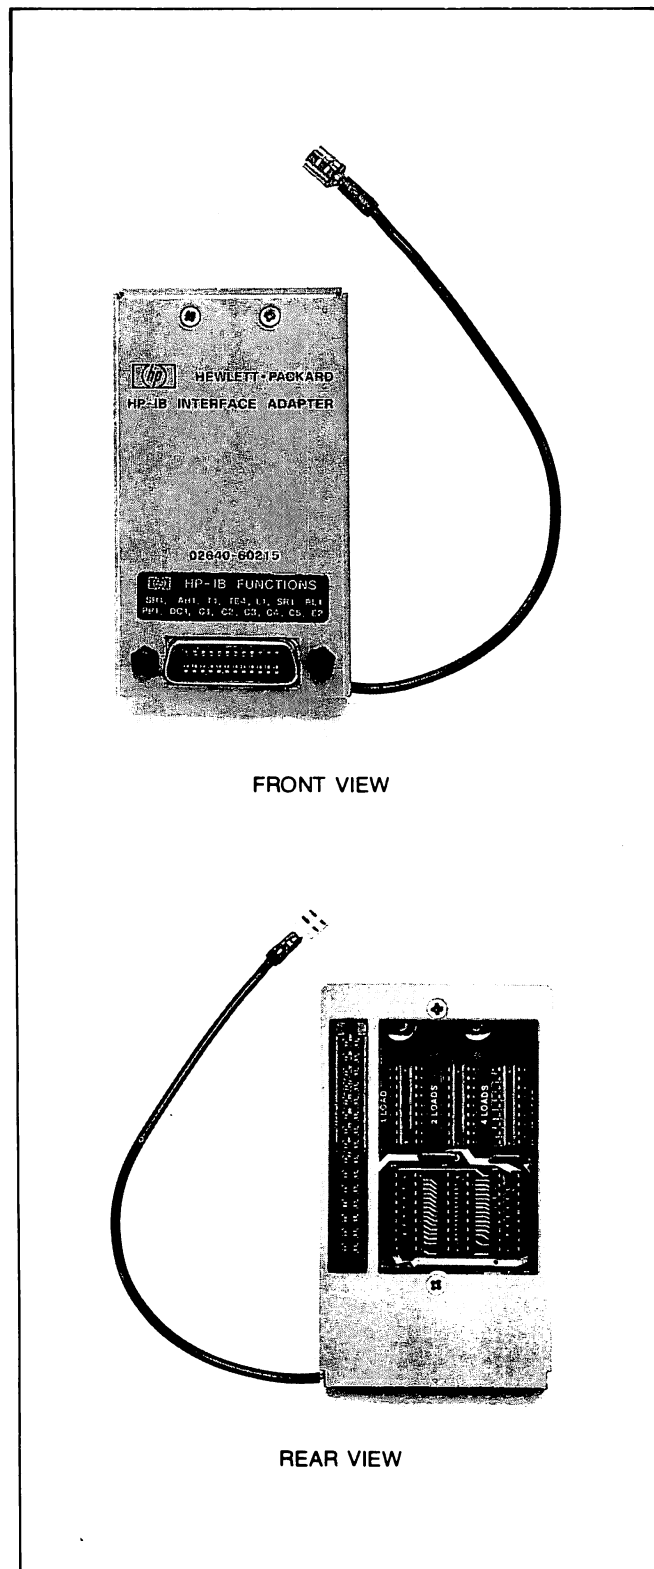

Figure 8-2. HP-IB Interface Adapter
3. An HP-IB Interface Adapter (part no. 02640-60215). (See figure 8-2.) This item serves two purposes. First, it provides a means of connecting an HP-IB cable to the interface PCA. Second, it provides you with a means of increasing the maximum combined amount of interconnecting cable permitted in your HP-IB configuration.